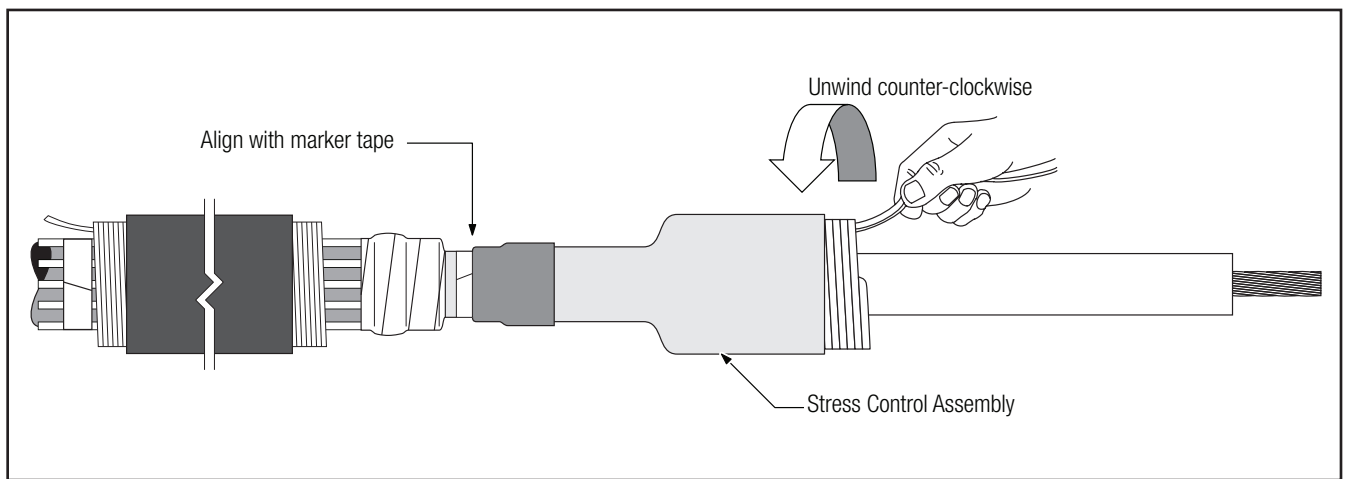

Figure 8
2.8 Select the Stress Control Assembly (medium length tubular assembly on white core) from the kit. Slide the Stress Control Assembly over the cable with the loose core end toward the cable end. Align the Stress Control Assembly Tube (not the core) with the marker tape, and remove the core by pulling the loose end while unwinding counter-clockwise. (Figure 8)